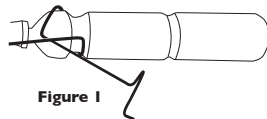

Figure 1
- Insert the battery into the front loop of the battery wire connector while leaving the end loop hanging outside (i.e. let the front loop open to allow battery to pass through). (Figure 1)
- Untie the end loop of the battery wire connector to allow the first loop to open as figure 1 above.